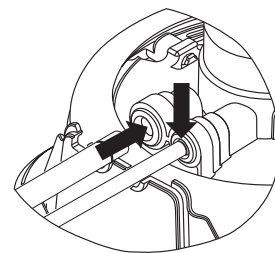

Fig. 27
8. **Insert** the RED tube from the Pressure Regulator Assembly into the large port on the Bracket. **Insert** the end of the BLUE tube marked at $\frac{5}{8}$ " (15 mm) into the small port on the Bracket (Fig. 27).